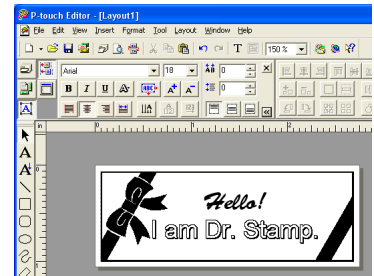

figure 20
- The selected frame design appears in the layout area (see figure 20).